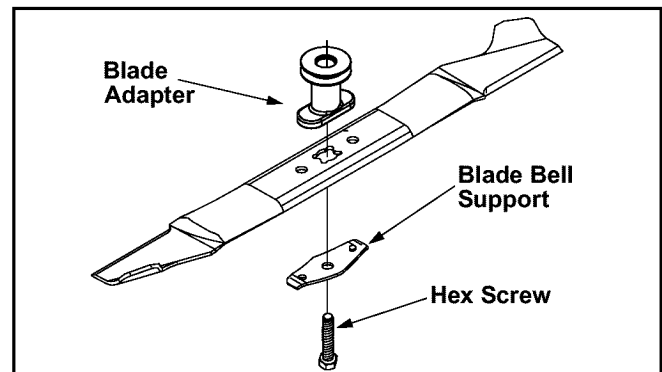

Figure 12
- Remove the bolt and the blade bell support which hold the blade and the blade adapter to the engine crankshaft. See Figure 12.